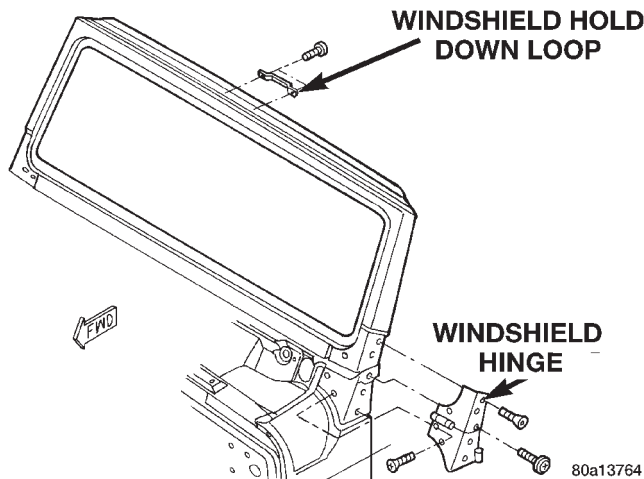

Fig. 7 Windshield Frame
- (1) Unlatch top.
- (2) Remove the bolts attaching the sport bar to the windshield frame.
- (3) Remove the windshield wiper arms.
- (4) Remove the torx screw closest to the hinge pivot point and tilt the windshield forward.
- (5) Remove the torx screws attaching the windshield hinge to the windshield frame (Fig. 7).
- (6) Separate the windshield frame from the vehicle.